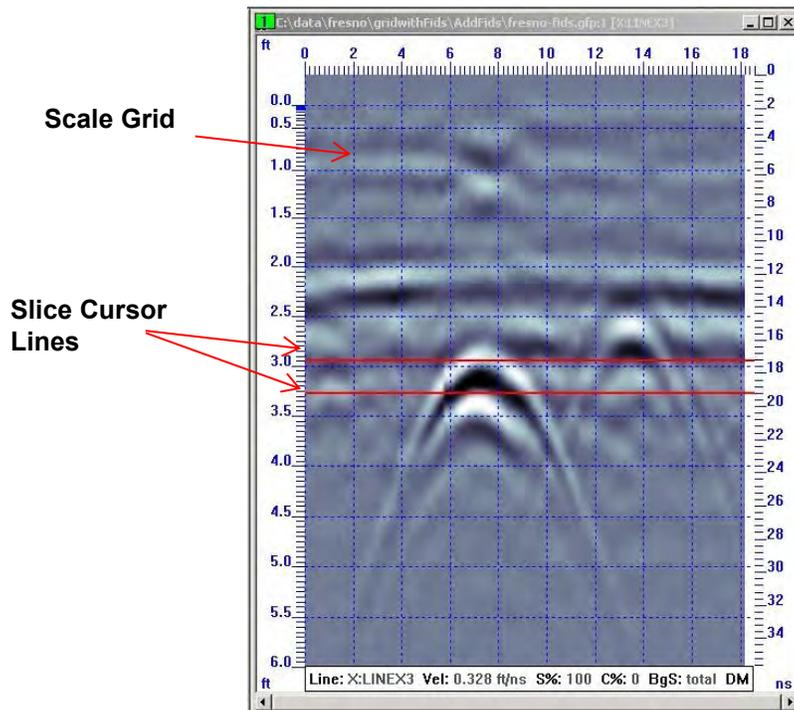

Figure 4: Slice Cursor line and Scale Grid
- The thickness range of a depth slice is indicated by two parallel lines superimposed on the GPR Line image (Figure 4).